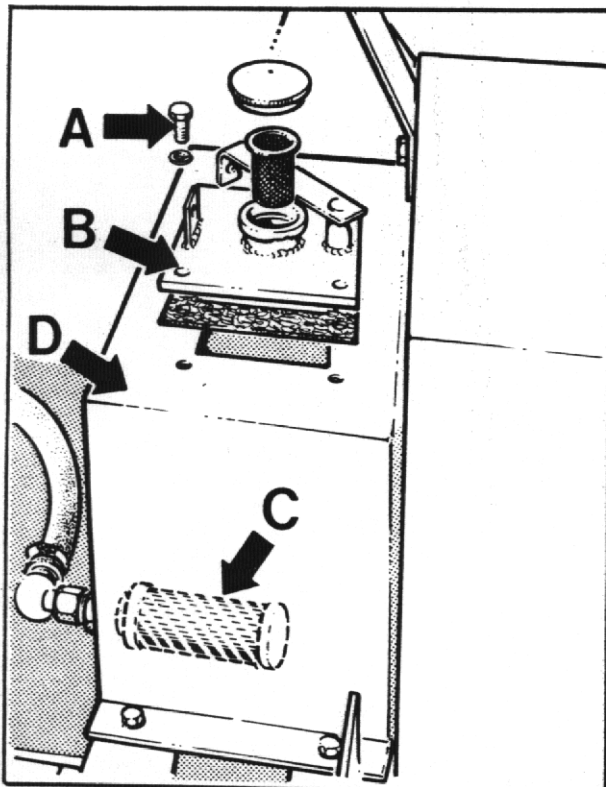

FIG.9
2. Check that hydraulic filter is not blocked. (See Fig. 9).
- a) Remove the four setscrews (A) that secure the filler cap assembly (B) and remove assembly.
- b) Unscrew suction filter (C) from inside tank (D) and wash in white spirit. Dry with moisture-free compressed air.